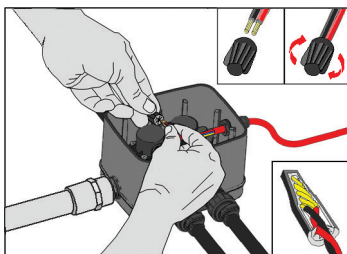
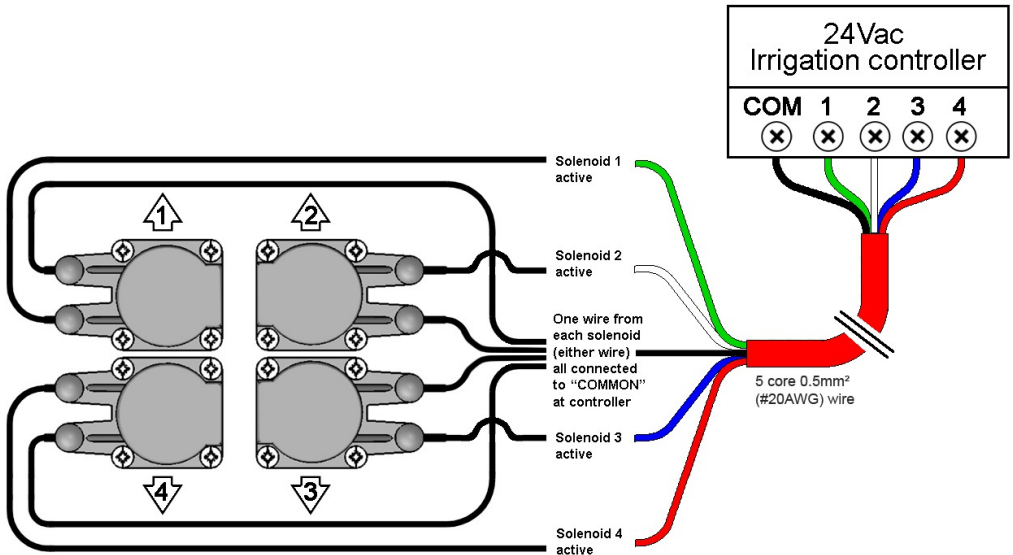

Fig 4
Fig 6 - Wiring diagram
4. Use the large black and grey wire connector (c) to join one wire from each solenoid to the common (black) wire from the controller (it does not matter which of the two wires in each solenoid is connected to the common). Place the wires to be joined together, with the ends of the insulation even. Twist the connector clockwise onto the wires, pushing firmly until hand tight. Do not over tighten. While tightening, wipe sealant in and around the wires and the opening. **DO NOT reuse wire connectors**. (Fig 4 and Fig 6 wiring diagram).
5. Using one of the four smaller black and white wire connectors (d), connect the second wire from solenoid valve #1 to one of the remaining controller cable wires (eZyvalve™4 solenoid valves are numbered 1 to 4 in line with the outlet, inside the box). Repeat with the other connectors until all the solenoids have been connected. By checking the wire colour at your irrigation controller, you can ensure that the valve numbering sequence matches that of the controller (Fig 6 wiring diagram).